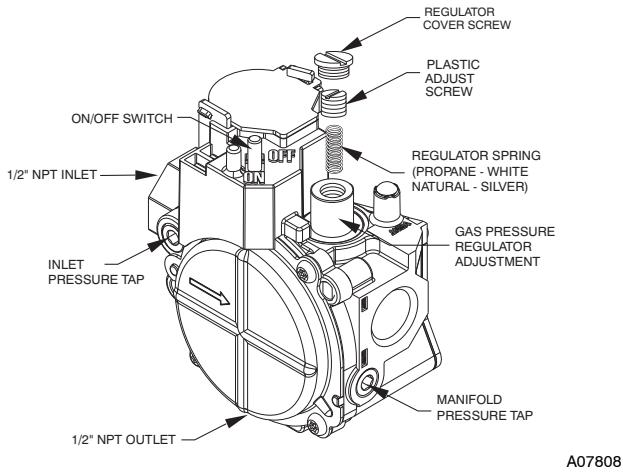

Fig. 12 - Single-Stage Gas Valve
16. Remove regulator cover screw from the gas regulator (see Fig. 12) Save regulator cover screw.
17. Using a screwdriver, remove the plastic regulator adjust screw from the gas regulator (see Fig. 12). Save plastic regulator adjust screw.
18. Remove regulator spring (silver) from the gas regulator (see Fig. 12). Discard regulator spring.
19. Install propane gas regulator spring (white) shipped with this kit. (See Fig. 12).
20. Install plastic adjust screw into the gas regulator, turn clockwise 13.5 turns (see Fig. 12).
30. Fire unit and verify proper ignition and proper sequence of operation (Table 6). See Table 4 for proper manifold pressure setting for your unit. Adjust the gas valve setting by turning the plastic adjustment screws clockwise to increase pressure and counter-clockwise to decrease pressure. Refer to Table 7 for required rated heating input rates. Replace regulator cover screws when finished (see Fig. 12).